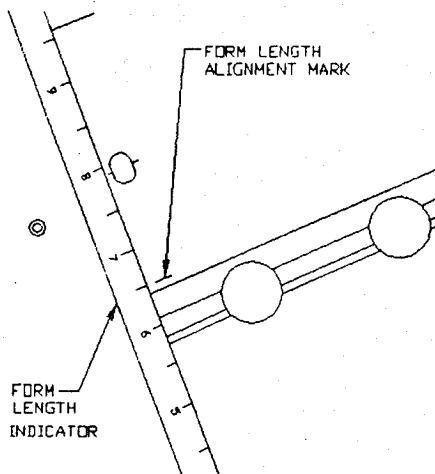

FIG 8
3. Set the machine for the length of the form by pulling Carriage Adjustment Knob outward and rotate it so that the Alignment Mark on the Feed Roller Cover aligns with the corresponding form length of the Form Setting Indicator. Push the knob back in. (Fig. 8)